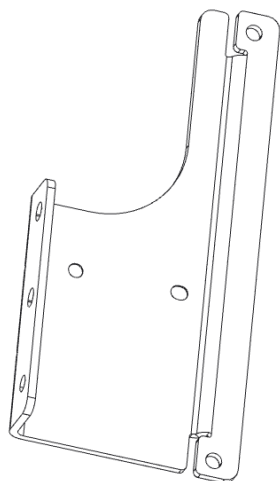

Figure 7. Straight Extender
- ▶ NVPN: 682-00003-5555-000 – Straight extender (Figure 7)